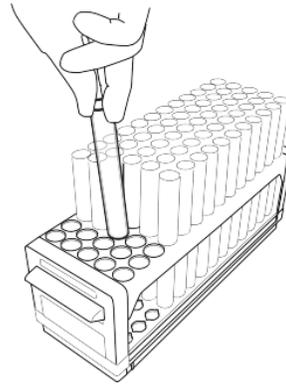

Figure 2-14 Loading test tubes
1. Insert test tubes, vials, or bottles into the rack (Figure 2-14). The system assumes all tube positions have tubes. If any tubes are missing, it is possible to have a fluid spill when the fraction collection system advances to that position